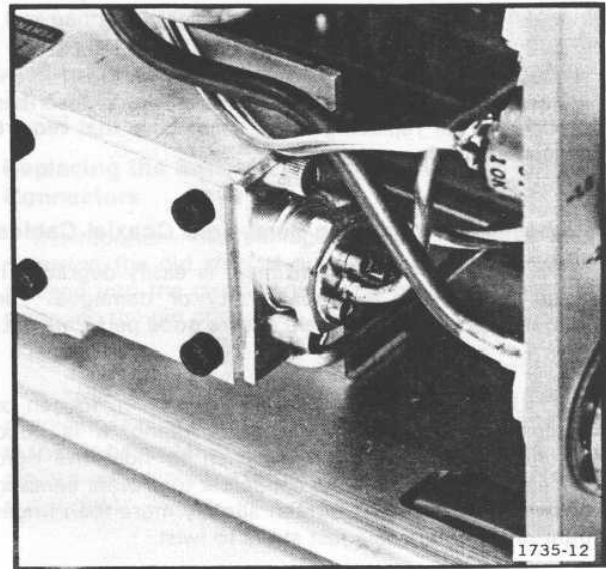

Fig. 5-6. Typical position for the mixer in the 2.182 GHz filter assembly.
The orientation of the mixer affects mixer balance and the suppression of a 2.182 GHz spurious response. If the mixer is positioned as shown in Fig. 5-6, the spurious response will usually be at least 70 dB down. If the spurious response is larger than this, readjust the mixer orientation until it decreases.
- c. Remove the mixer assembly and install it in the replacement filter assembly. Position the mixer assembly as illustrated in Fig. 5-6.
j. Loosen the mixer clamp so the coupling and orientation can be adjusted. Orient the mixer as shown in Fig. 5-6.